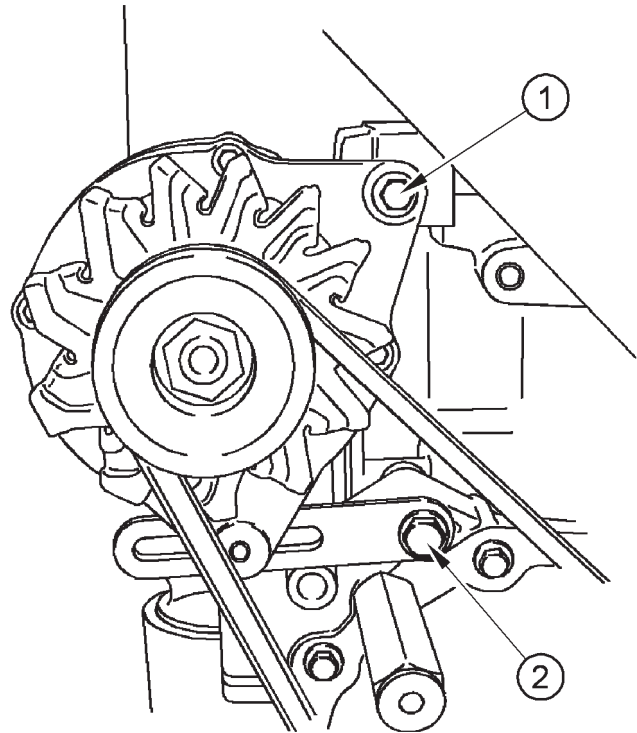

Figure 11
1. Loosen the nut and bolt (figure 11 item 1). Then loosen the nut and bolt (figure 11 item 2).